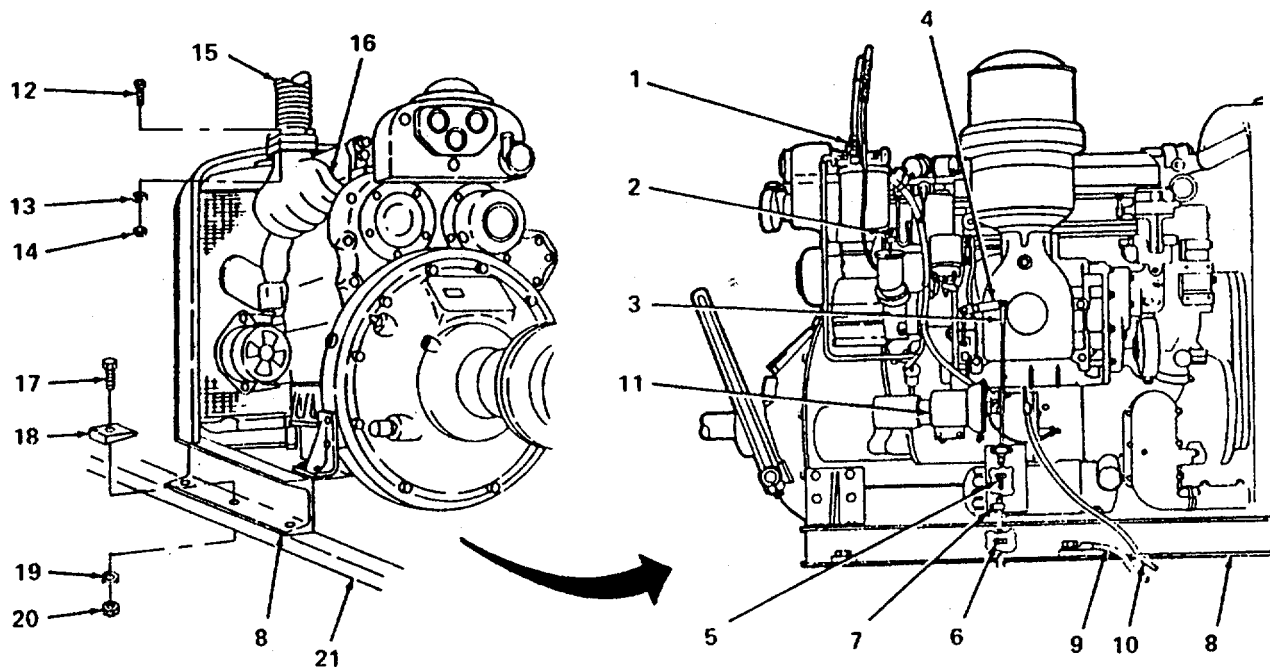

Figure 5-7. Engine Removal.
- (a) Position container under fuel lines and unscrew and remove fuel lines (1 figure 5-7) and (2).
- (2) Disconnect remote emergency shutdown.
- (a) Remove clevis pin and separate shutdown cable (3) from actuating lever (4) on engine.
- (b) Remove two screws (5) and two nuts (6) securing shutdown cable mounting plate (7) to engine frame (8).
- (3) Disconnect battery cables.